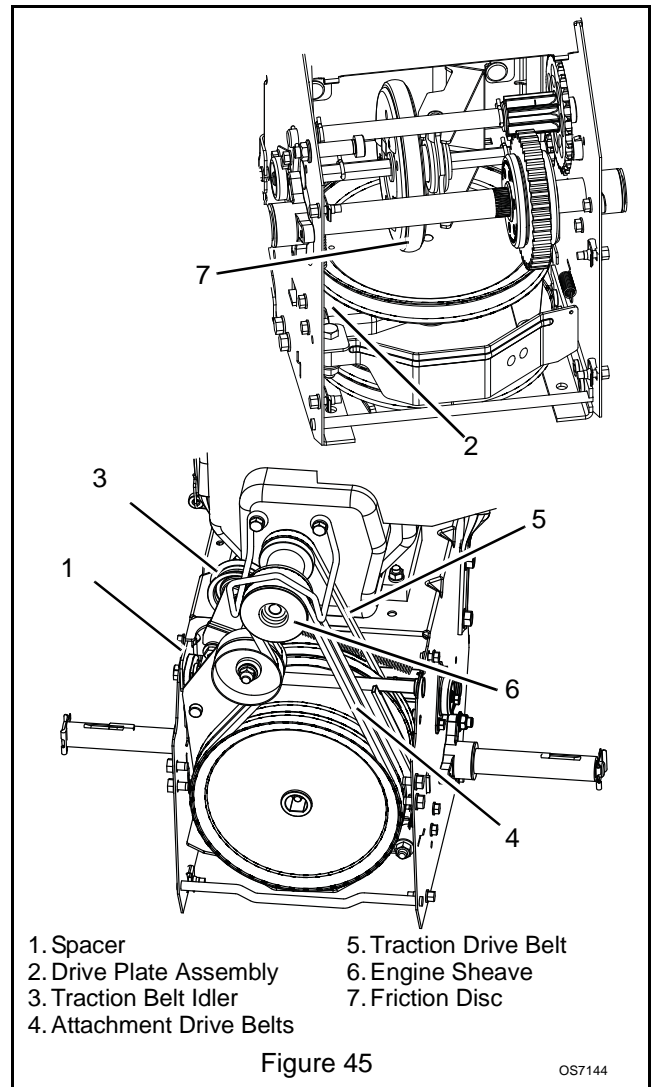

Figure 45
2. To gain belt clearance, remove swing gate spacer and slide drive plate over so that finger clears stop hole in frame and can swing past it. See Figure 45.